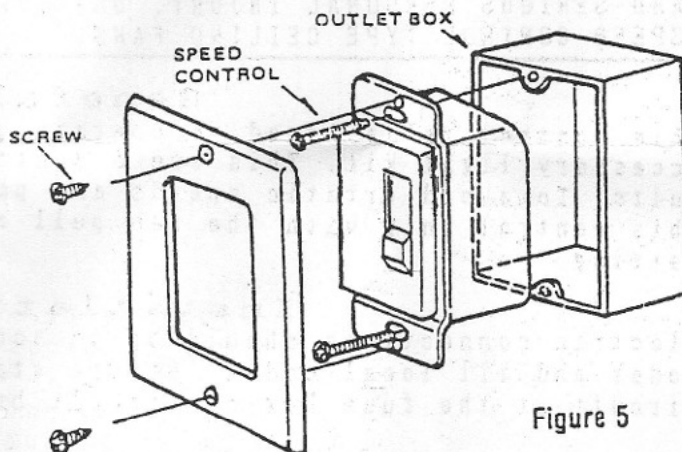

Figure 5
4. Attach the control to the outlet box using the two 6-32 screws (supplied) (Figure 5). Attach a wall plate to the switch front using the two 6-32 screws supplied with the wall plate.